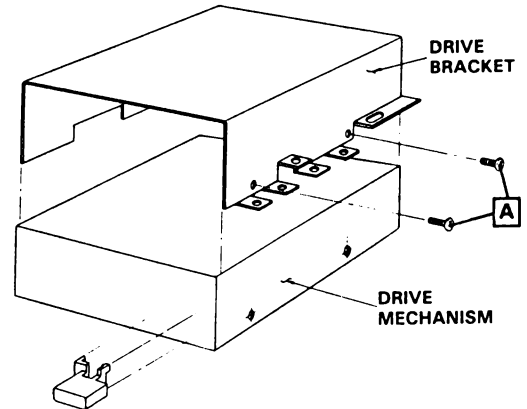

Fig. 2-8. Drive Assembly
2.4.8 If it is necessary to remove the drive mechanism from the drive bracket, remove the 4 screws from the sides of the bracket. See Fig. 2-8.